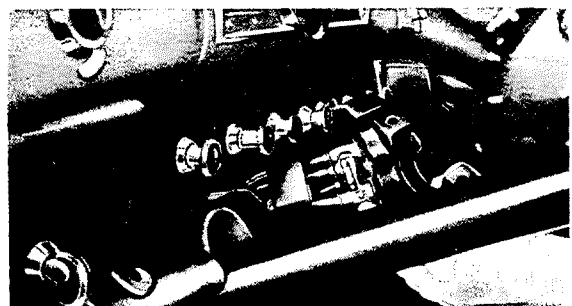

Fig. L 8/3
8. Remove the contact cap from the steering column bracket and disconnect the cables (Fig. L 8/3).